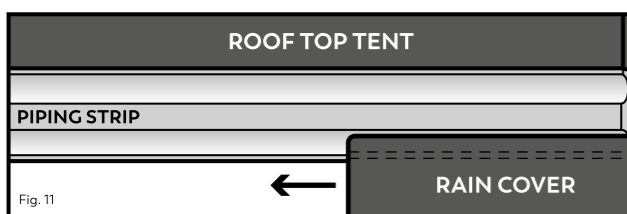

Fig. 11
5.1 Take the rain cover and insert the side without the zip into the piping strip under the hinge (see Fig. 11).